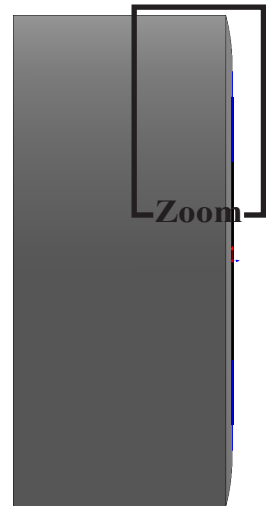

Fig. 22
Step 2. Zoom in around **top letters**, Fig. 22. To zoom, place the cursor over the letters and spin the wheel on mouse back. While spinning the wheel keep cursor on letters.